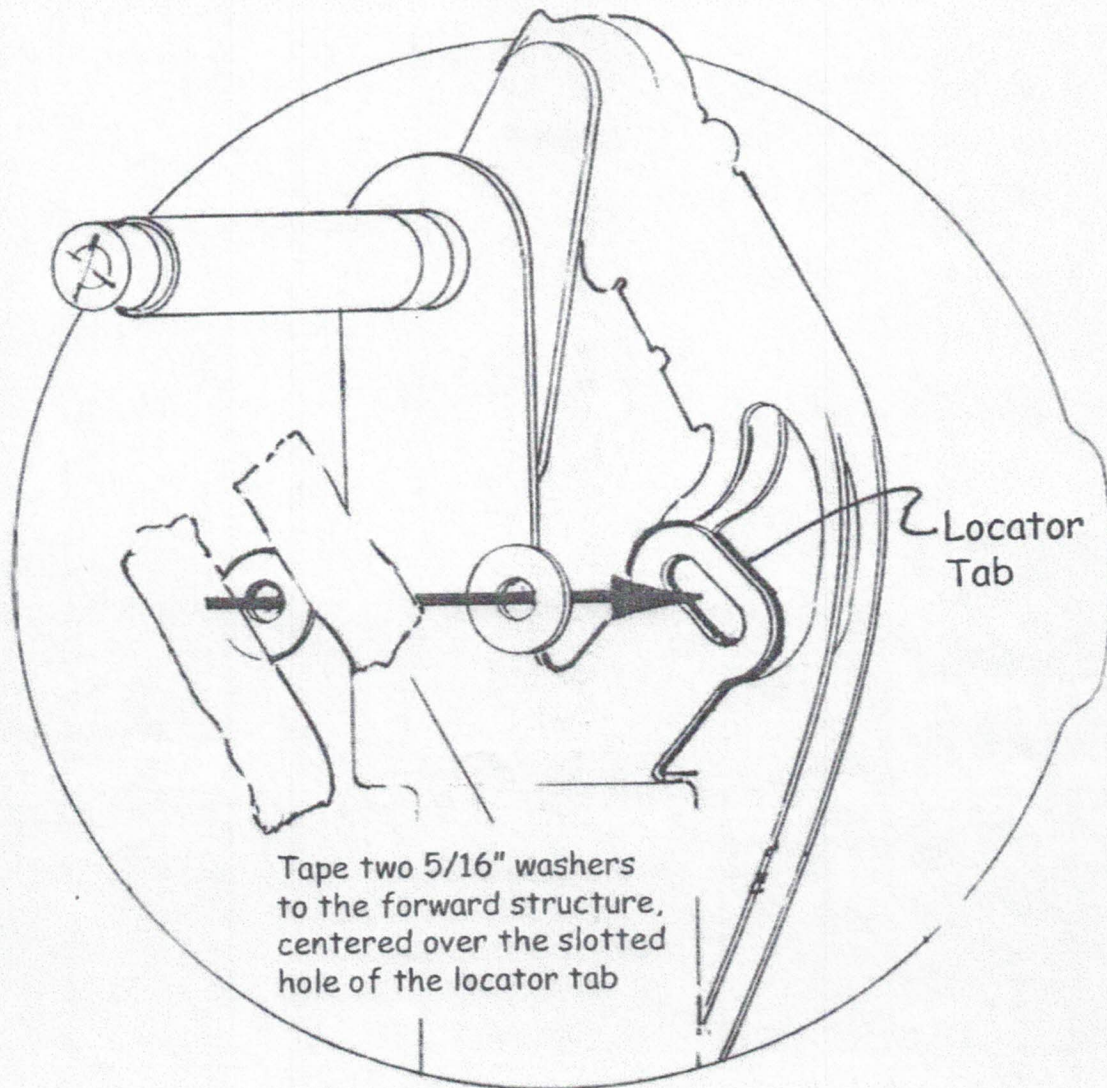

Figure 4 1957 Installation
- Add or subtract flat washers between the bridge and mounting plate until the outside chrome escutcheon slips onto the pivot shaft as easily as possible. See figure 4 for correct spacing.